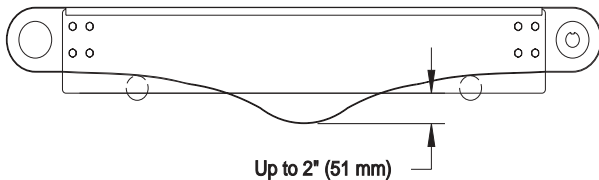

Figure 34
3. Check belt sag by measuring from the bottom of conveyor frame (Figure 34). Belt sag should not exceed 2" (51 mm).